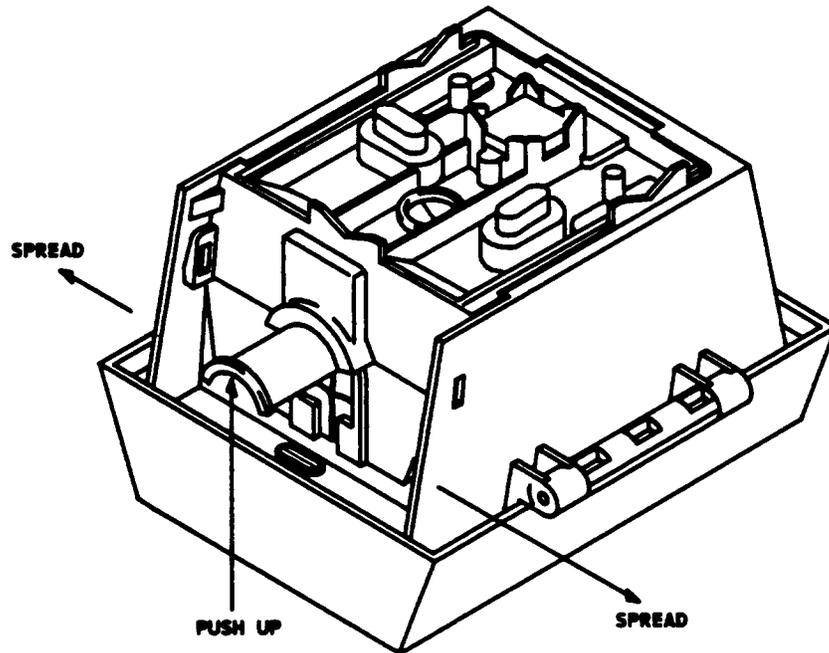

Figure 4. 401 NIU — Disassembly
5.01 The 401 NIUs are designed for inside or outside wall mounts. The 401 NIU is mounted and wired as detailed in paragraph 5.03 and Figure 4 through 11.
- (1) Separate the base from the closure as indicated in Figure 4.